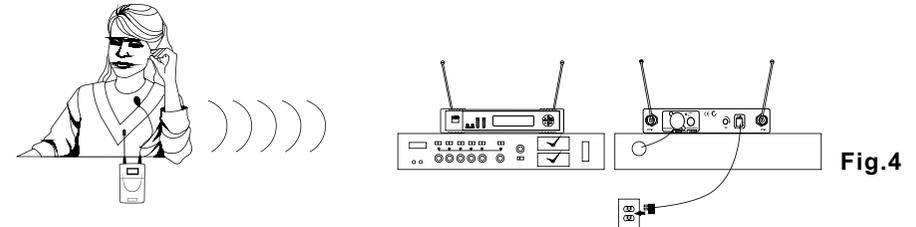

Fig.4
- 1.Refer to Fig.4.Below, connect the AC power adaptor to the DC IN connector on the back of the receiver. Plug the adaptor into an AC wall socket. Push to switch on the receiver. The LCD on the receiver will glow.